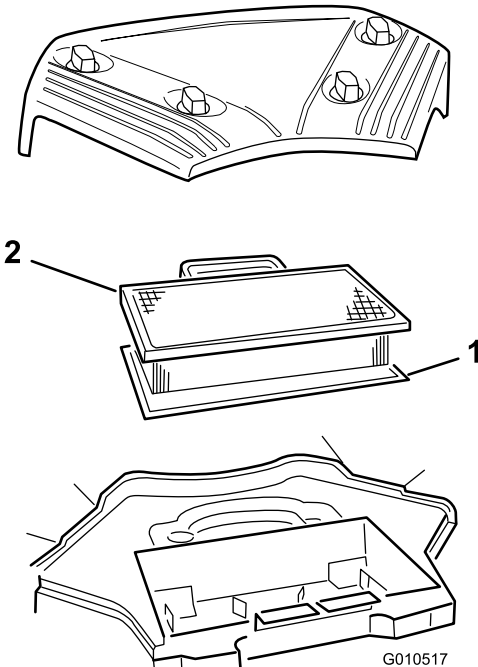

Figure 23
1. Knob (4)
3. Lift out the paper cartridge and the foam element. (Figure 23)